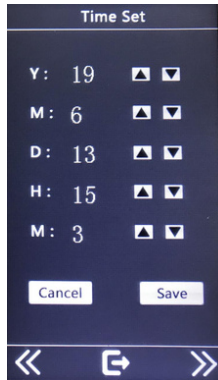

Figure 16
9. Time setting: change the system time. As shown in figure 16